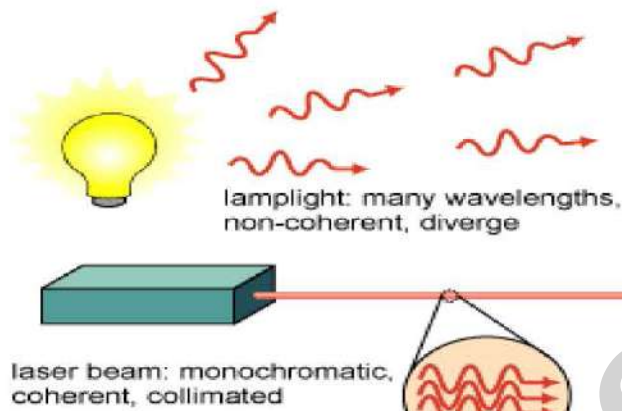

Figure 3
(D) A **laser** (from the acronym *Light Amplification by Stimulated Emission of Radiation*) is an optical source that emits photons in a coherent beam. Laser light is typically near-monochromatic, i.e., consisting of a single wavelength or color, and emitted in a narrow beam. This is in contrast to common light sources, such as the incandescent light bulb, which emit incoherent photons in almost all directions, usually over a wide spectrum of wavelengths (see fig 3.).